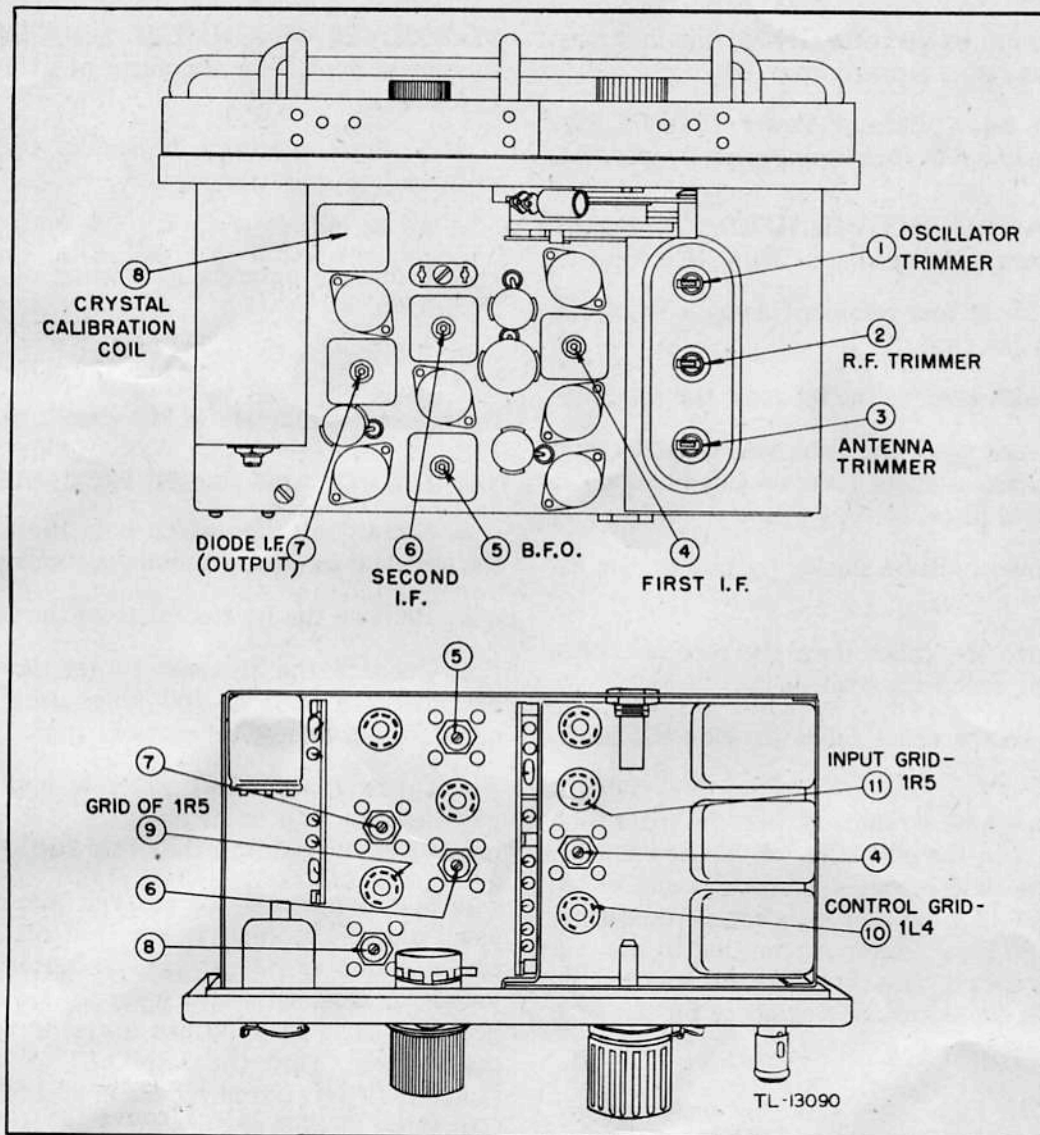

Figure 35. Receiver alignment points.
h. Connect the high potential or hot terminal of the signal generator to the grid of the second i-f tube through a blocking capacitor. See figure 35 for alignment points.
t. Proceed as in paragraph 25 and adjust calibration oscillator screw number 8 in figure 35 for maximum output.